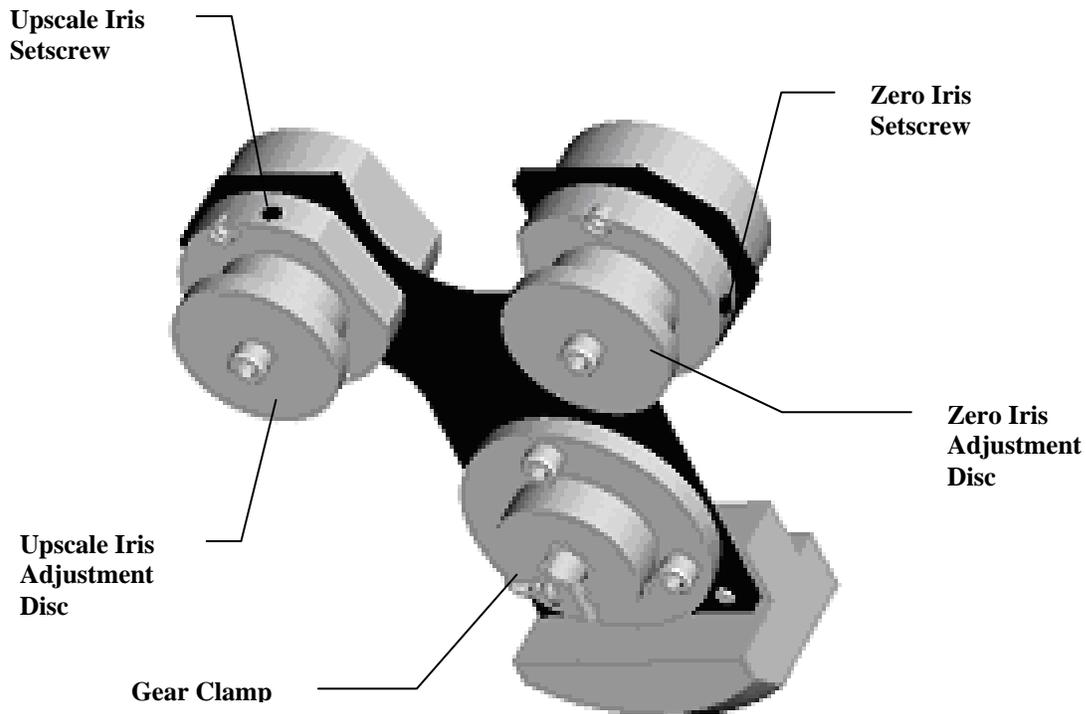

Figure 8-4
While the Optical Head hinged section is open, the simulated zero and upscale windows of the Calibration Assembly may be cleaned. The Cal Mechanism Arm Assembly can be removed by loosening the gear clamp and pulling it off the shaft. See Figure 8-4. **Care should be taken not to damage the guide pin.** Using the standard cloth and solution, clean both windows. Cotton cleaning swabs may be employed to clean hard to reach areas, as long as the lint-free cloth is used to remove any cotton fibers left by the swab. Return the Cal Mechanism Arm to the shaft making sure that the guide pin slides fully into the slot on the arm. Put the gear clamp back on and tighten.
- a) Loosen the Allen head setscrew that locks the Zero Iris in place. See Figure 8-4.
- c) Slowly rotate the disc on the rear of the Cal Zero Iris to achieve as near as possible to 0% opacity ($\pm 2\%$ on **U0**). See Figure 8-4.
- d) Carefully lock down the Iris setscrew. See Figure 8-4.
- i) Loosen the Allen head setscrew that locks the Upscale Iris in place. See Figure 8-4.
- iii) Slowly rotate the disc on the rear of the Cal Upscale Iris to achieve as near as possible to target value (location C1). See Figure 8-4.
- iv) When the proper value is obtained, carefully lock down the Upscale Iris setscrew. See Figure 8-4.